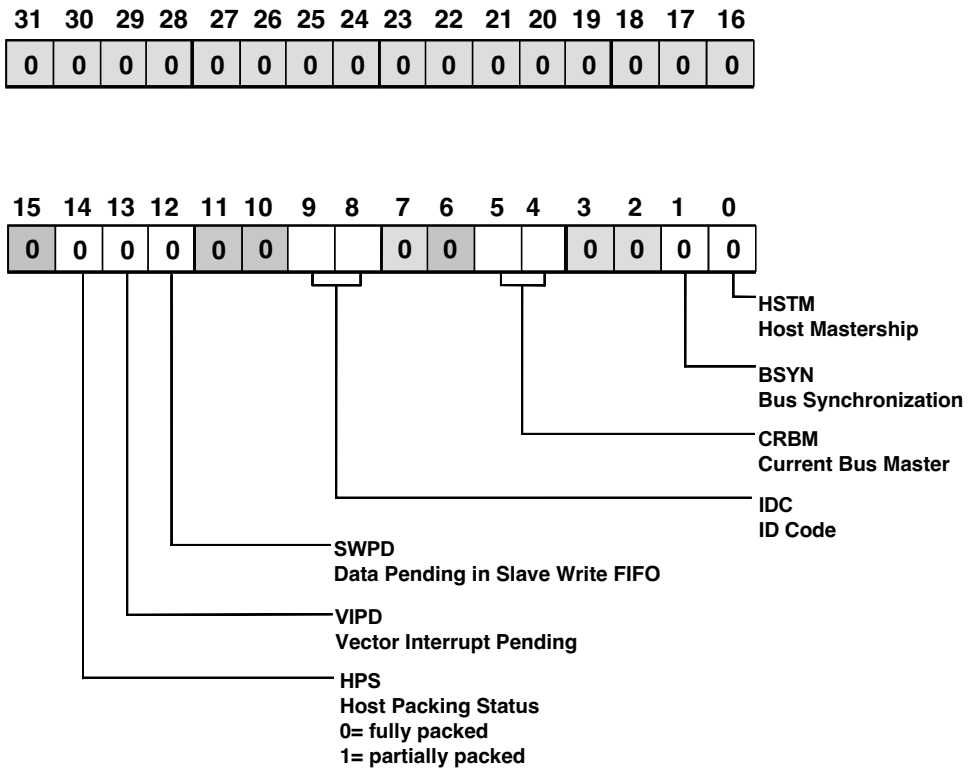

Figure E-19. SYSTAT register bits
After reset, all bits in SYSTAT, except IDC (1:0) and CRBM (1:0), are initialized to zero (0) as shown in Figure E-19. After reset, IDC (1:0) is equal to the value of the processor's ID₁₋₀ inputs, and CRBM (1:0) is equal to the ID of the current bus master.